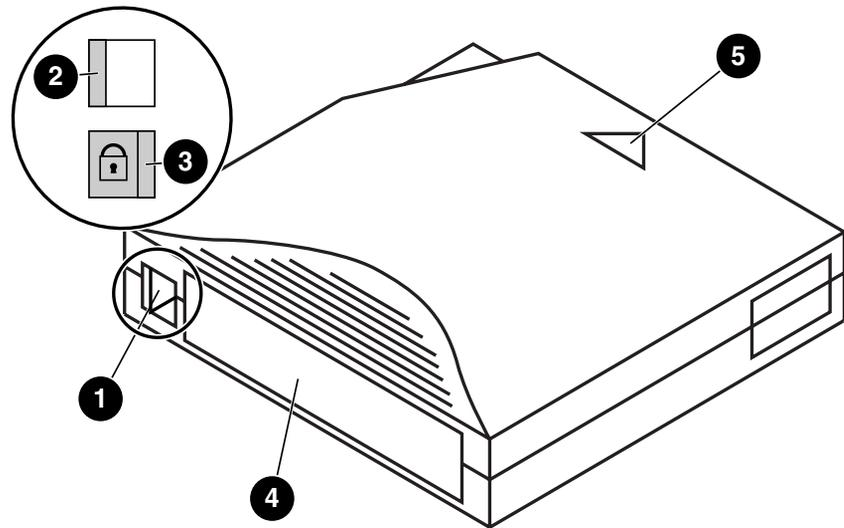

Figure 19: Write-protecting Ultrium tape cartridges
Caution: The bar code label should be applied as shown in Figure 19 with the alphanumeric portion facing the hub side of the cartridge. Never apply multiple labels onto a cartridge, because extra labels can cause the cartridge to jam inside a tape drive.
By moving the switch to the left (② Figure 19), the tape cartridge is write-enabled. By moving the switch to the right (③ Figure 19), the tape cartridge is write-protected.